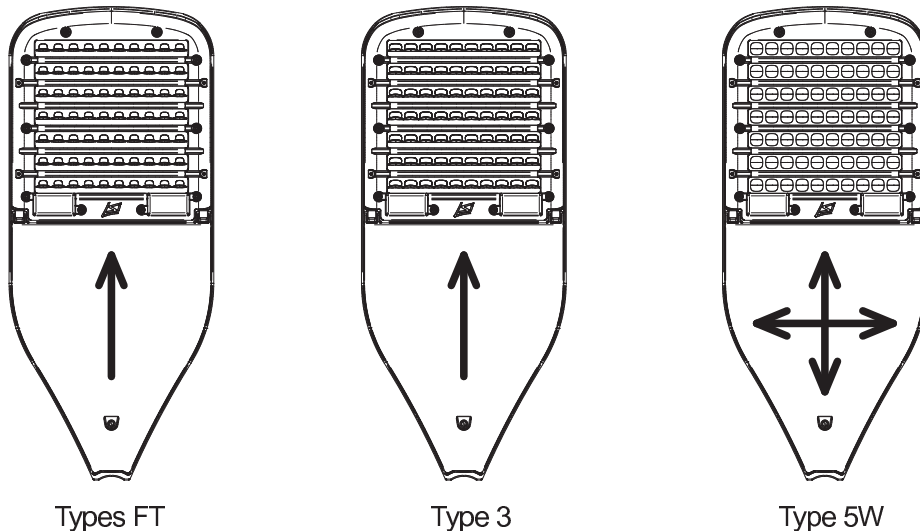

FIGURE 3
1. Match the optic in the luminaire with the corresponding optic type. Model number nomenclature on product label (inside access door) identifies optic type as well. See Figure 3.
NOTE: Pole must be pointed in right direction. Reference Figure 3 to ensure light beam direction and pole direction are correct when compared to site layout drawing.